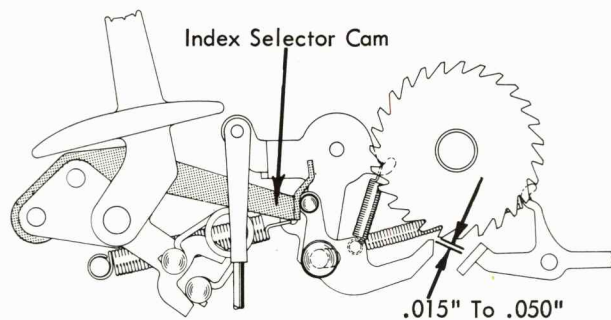

FIGURE 155. Index Selection Cam Adjustment
- a. With the index cam latched at rest and the selection lever in the double line space position, adjust the selection cam front to rear so that the index pawl clears the platen ratchet by .015" to .050" (Fig. 155).